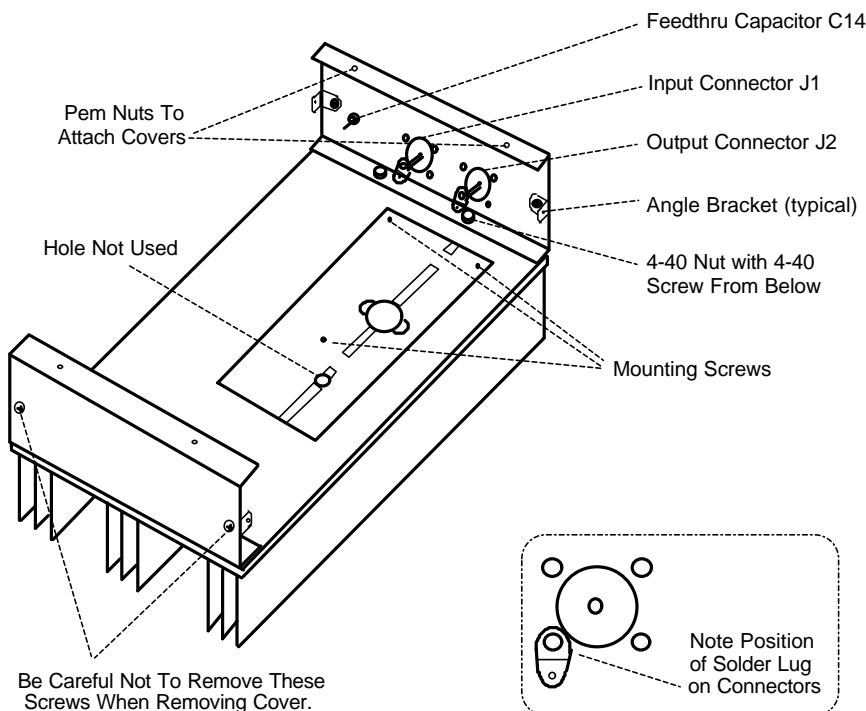

Figure 1. Bottom View of Heatsink and End Plates
a. Set heatsink on bench, oriented as in figure 1. Note where PA transistor is to be mounted to two adjacent holes. Align the pc board with the heatsink, matching the cut-out for the transistor and the pc board mounting holes with the holes on the heatsink. *Note that the heatsink is used for several products; so there will be extra holes to the left of the pc board which are not used in this model.*
j. Attach two SO-239 or 'N' connectors to the outside of the end plate, using three 4-40 x 1/4 inch screws with nuts and one 4-40 x 3/8 inch screw with a ground lug and nut for each connector. The ground lugs should be positioned as shown in the inset in figure 1 so that they are as close as practical to the center lug of the connectors.